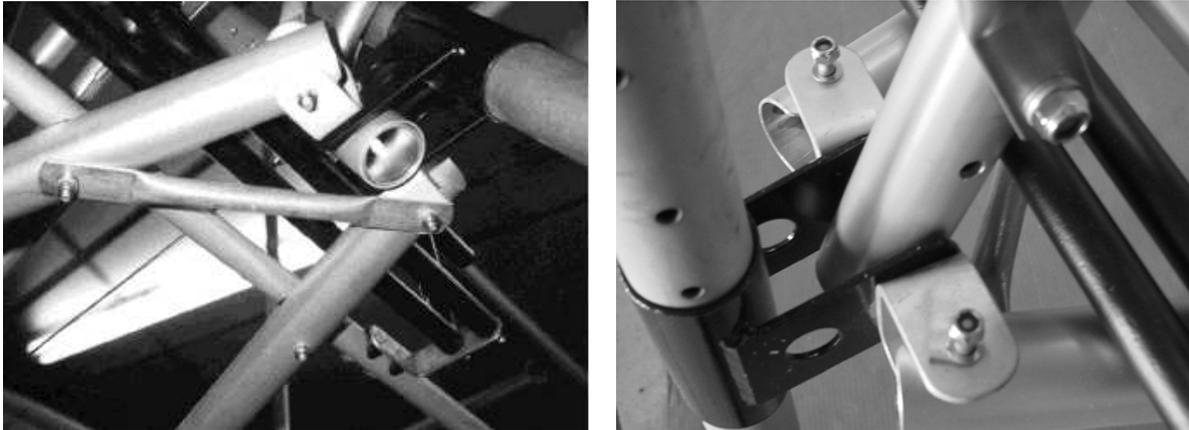

Figure 16; forward end of the lower cabin triangle viewed from below and above. Note non-UKMOD nose leg lower guide.
*The front ends of the lower cabin triangle tubes **tu12** should have the cut-outs on the inside, visible in Figure 16.*